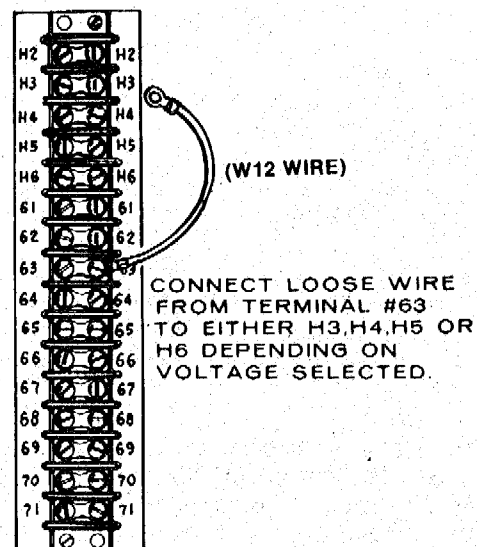

FIGURE 17. REFERENCE VOLTAGE CONNECTION (TB21)
4. Open hinged control panel doors. Connect lead from terminal 63 to correct terminal for voltage desired. These terminals are labeled H2, H3, H4, H5 and H6. See Figure 17.